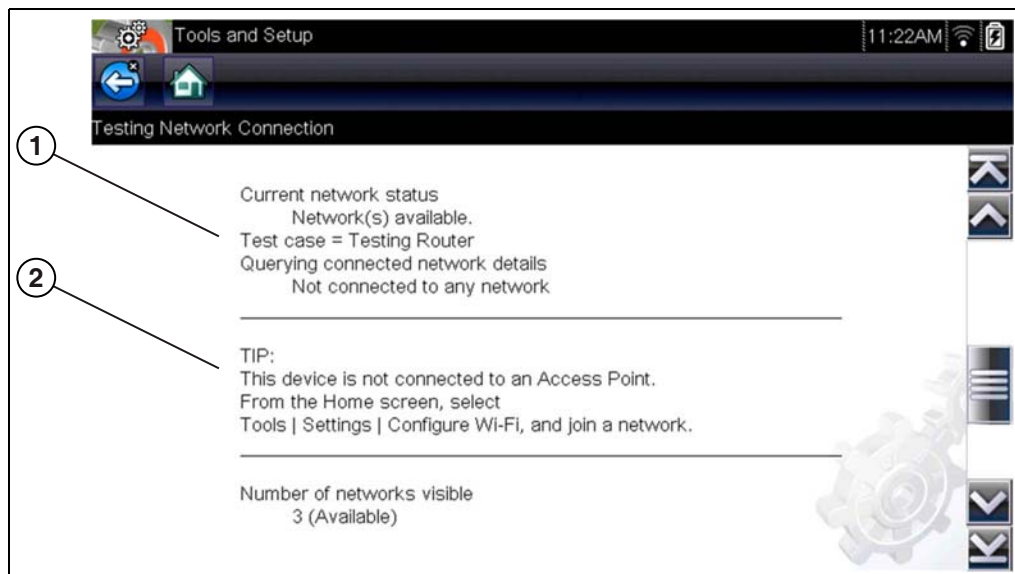

Figure 7-12 View Summary
4. If a connection issue(s) is present, select **View Summary** to review the results. The summary information is helpful if you are experiencing difficulties with your connection (Figure 7-12). Scroll through the summary information to review the test results for each system and Tip messages for the current connection issue. See *Connection Tests - Troubleshooting* chart in Wi-Fi Troubleshooting on page 62 for additional information.